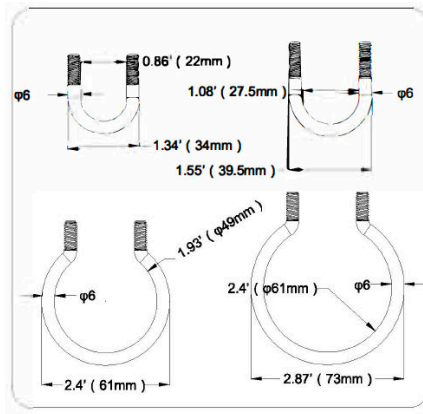

Fig. 15
- A. Can be equipped for 4 sizes of U-bolts. The sizes are as follows: 21mm, 27mm, 48mm, 60mm (Fig. 15).
- B. Select the appropriate bolts (Fig. 15), assemble the bolts to the fixture, and install the nuts (Fig. 16).